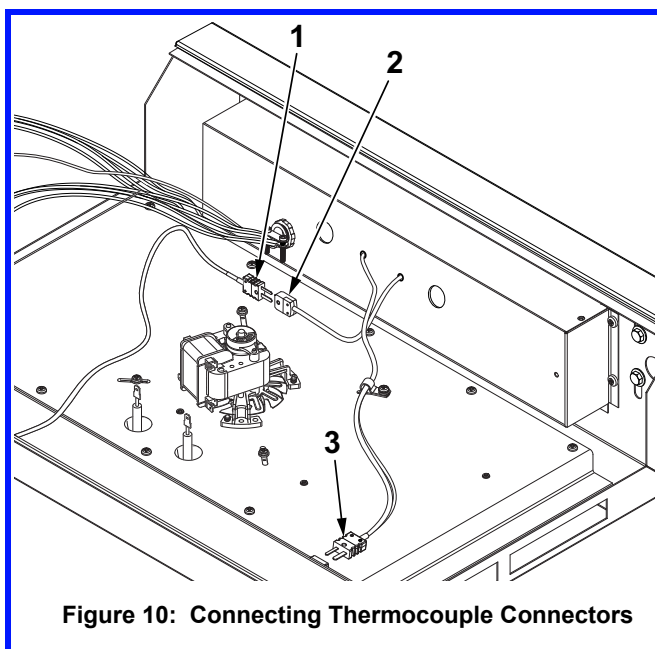

Figure 10: Connecting Thermocouple Connectors
6. Connect both the male and female thermocouple connectors (See Figure 10, Items 1 and 2) for the upper chamber.
7. Connect the male thermocouple to the stationary connector on the back side of the drawer for the lower chamber. See Figure 10, Item 3.